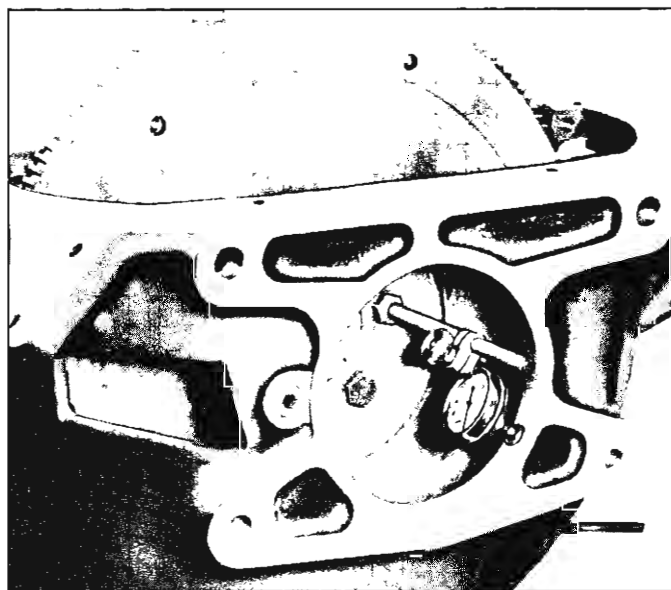

Fig. 180—Checking Bore Runout
- Install Tool J-8001 and position to read bore runout of the housing (fig. 180). Check runout by rotating crankshaft. On standard shift models, the limit is .008", while Powerglide models have a limit of .005".